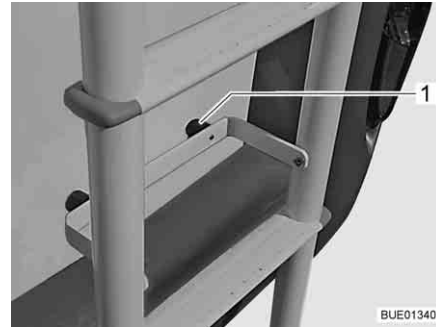

Fig. 2 Ladder folded downwards
- Place guard rail with the rubber knobs (Fig. 2,1) up against the back panel of the vehicle.